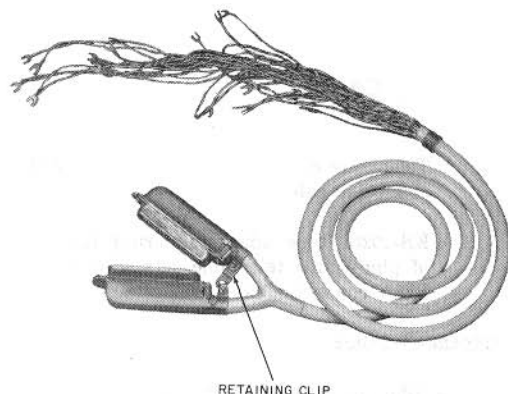

Fig. 1—148A (MD) or 148B Adapter
148A (MD) and 148B Adapters (Fig. 1)
- Connectors are held together by a retaining clip (Fig. 1) for protection during shipment.
- The 148B adapter is identical to the 148A (MD) adapter, except that the cordage incorporates the even-count color code. The 148B-87 adapter has replaced the 148B-49 (MD) adapter. The 148B-87 is identical to the 148B-49 (MD) except the 148B-87 is equipped with a satin-silver cord.